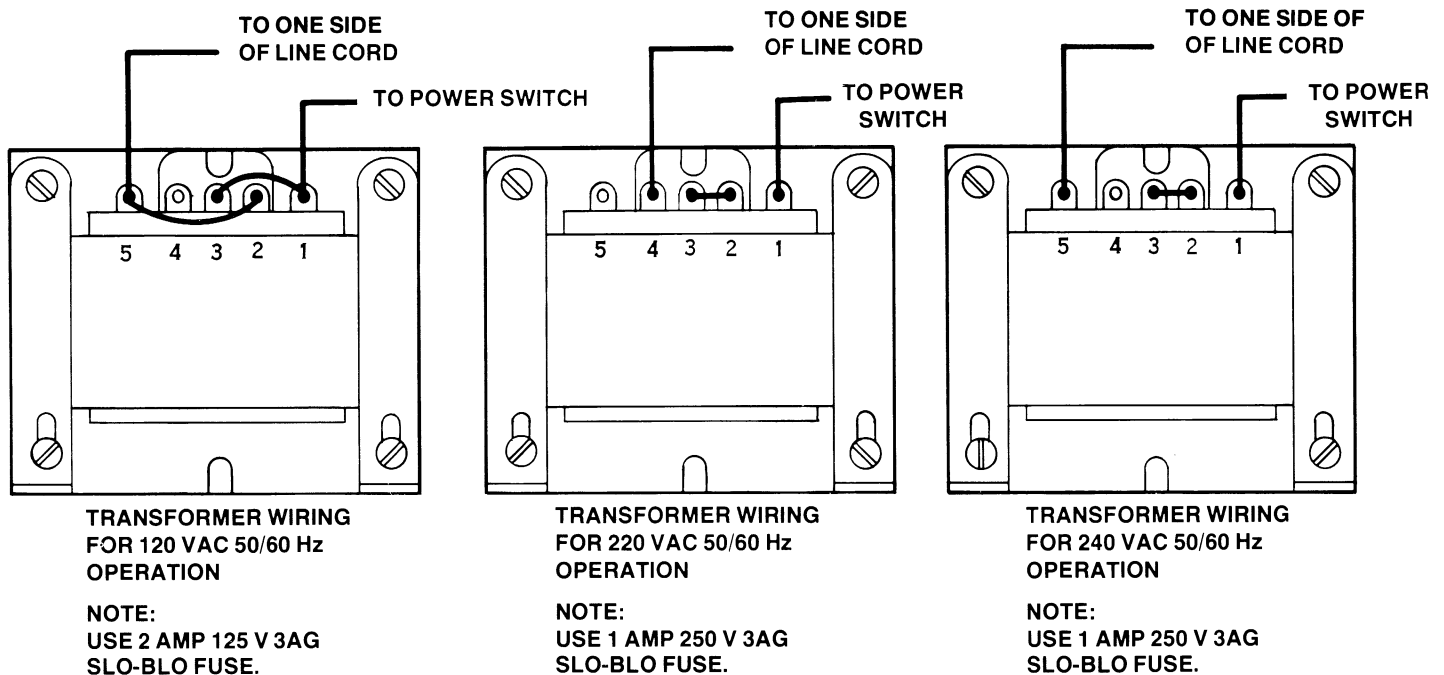

Figure 7-1. Connections for Different Primary Voltages
- Interchange connections to the power transformer as shown in Figure 7-1.